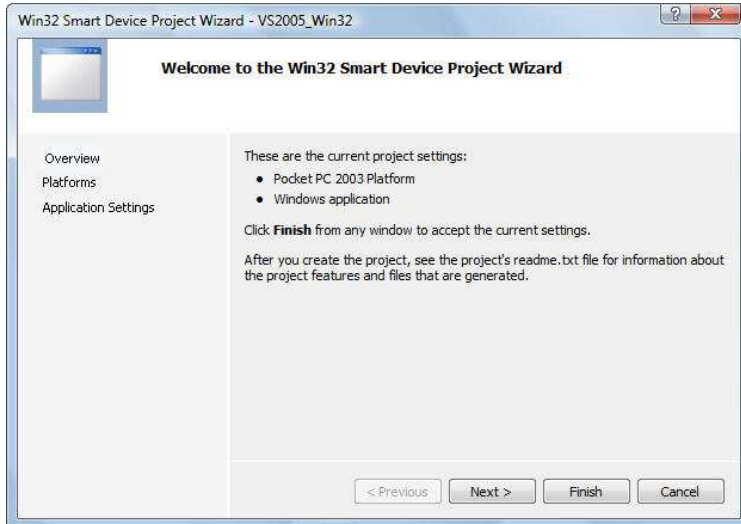

Fig. 49 - Win32 Smart Device Application wizard
- Click on the **OK** button to bring up the Win32 Smart Device Project wizard, as shown in Figure 49.